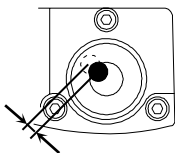

Fig.5.2
- 3) Compensate for half of the shift by adjusting the leveling foot screws (7) ( Fig.5.2 ).